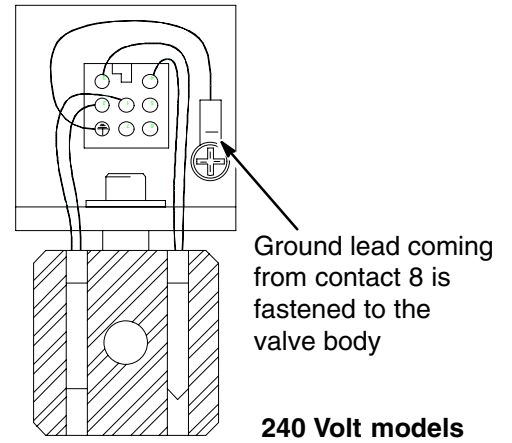

Fig. 4
3. Verify that socket contact E on six pin models (see Fig. 5) or contact eight on eight pin models (see Fig. 4) , inside control panel receptacle, is connected to true earth ground.